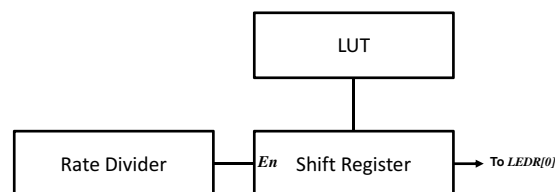

Figure 2: A high-level block diagram of the Morse code circuit.
2. Create a new subcircuit called `MorseCode`. It should include: two 1-bit inputs `LoadEnable` and `Enable`, a 3-bit input `CharSelect`, and a clock. Add a `MorseLUT` and `rate_divider` module, as well as a shift register from Logisim Evolution (you can find it under `Memory`). You may find Figure 2 helpful.